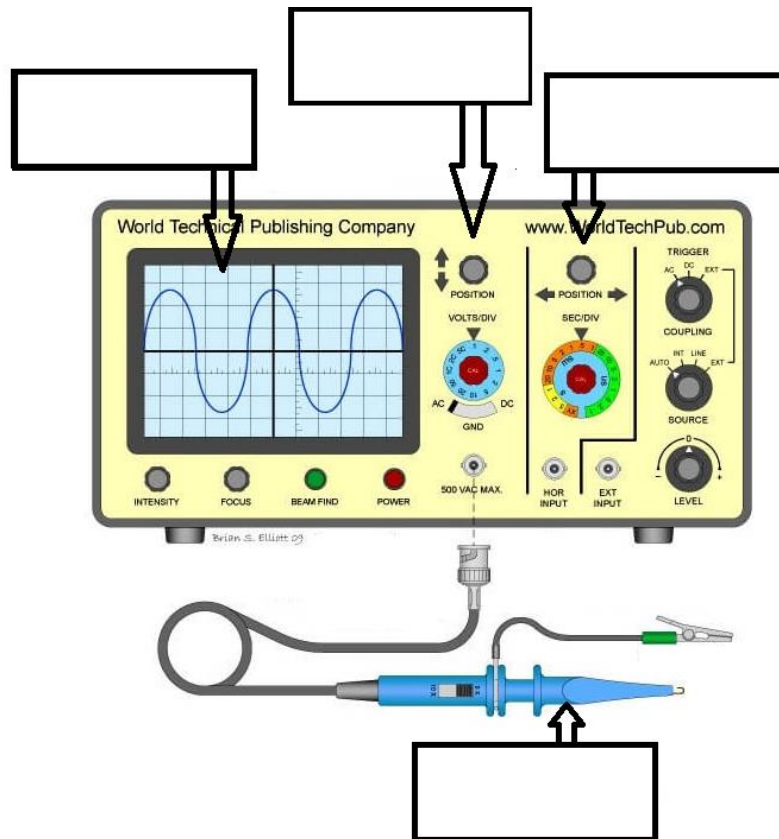

Figure 11 – Oscilloscope
c) Label important features of the oscilloscope given in Figure 11.